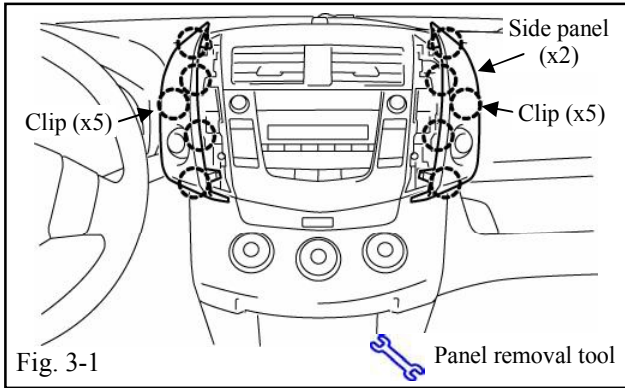

Fig. 3-1
- (1) Using a nylon pry tool, disengage five (5) clips on each side and remove the side trim panels. (Fig. 3-1)
- (2) Disconnect electrical connectors from each side trim panel.